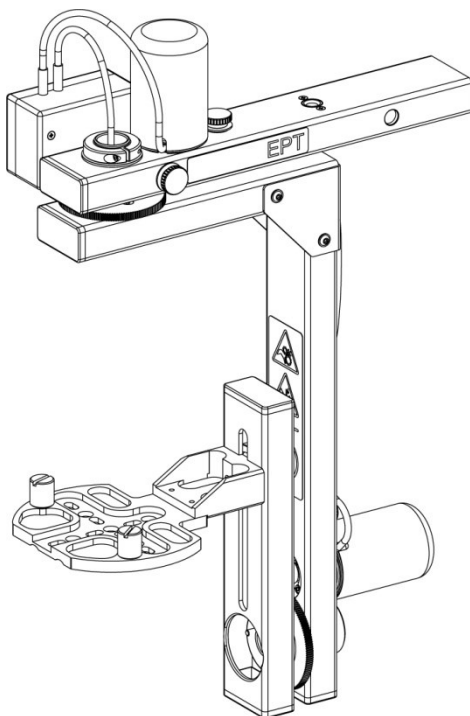

figure 7: compact transport configuration
- use the motor drive to rotate the pan and tilt unit to the position shown in figure 7
- unlock knob (5) and (6)
- rotate the pan and tilt unit to the position shown in figure 7
- slightly lock knobs (5) and (6)